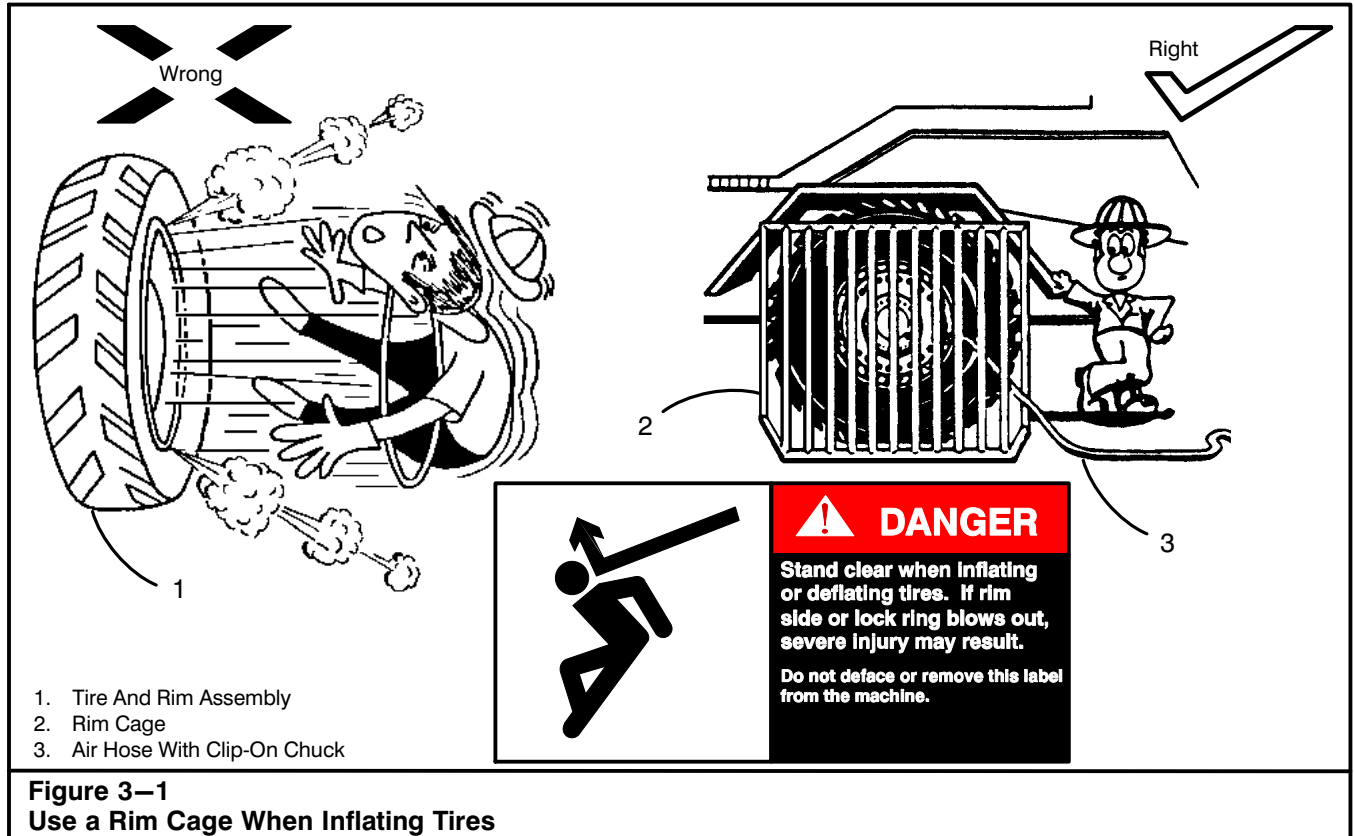

Figure 3-1
Check the tire inflation pressures daily when the tires are cold. Use the Tire Inflation label, on the left side of the hydraulic reservoir or the Tire Inflation chart in the Crane Rating Manual, to determine the correct tire pressure for the type of operation being performed. This label contains recommended tire pressures for different operating conditions. A rim cage should be used when inflating tires to protect the mechanic and any bystanders from the danger of “rim explosion”. Improperly assembled or damaged rim components are subject to explode when tires are inflated. Refer to Figure 3-1.
- Position a rim cage in front of the tire and rim assembly before deflating the tire. Refer to Figure 3-1.